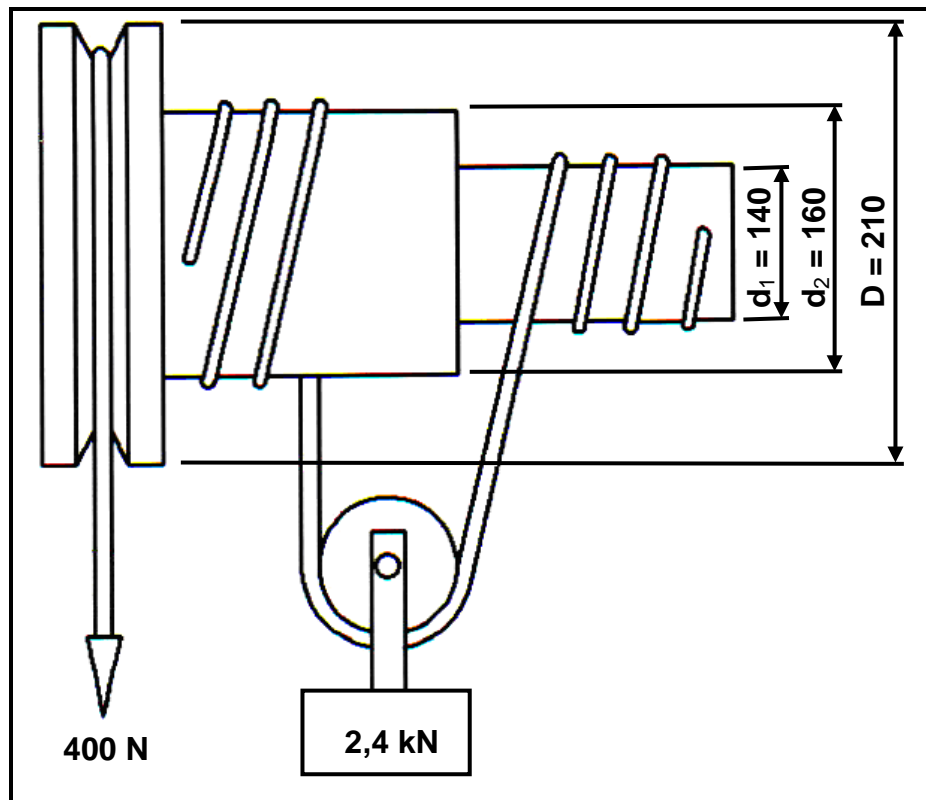

FIGURE 6.4
6.5 A differential wheel-and-axle lifting machine is shown in FIGURE 6.4 below. A load of 2,4 kN is lifted when an effort of 400 N is applied. The diameters of the pulleys are 210 mm, 160 mm and 140 mm respectively.